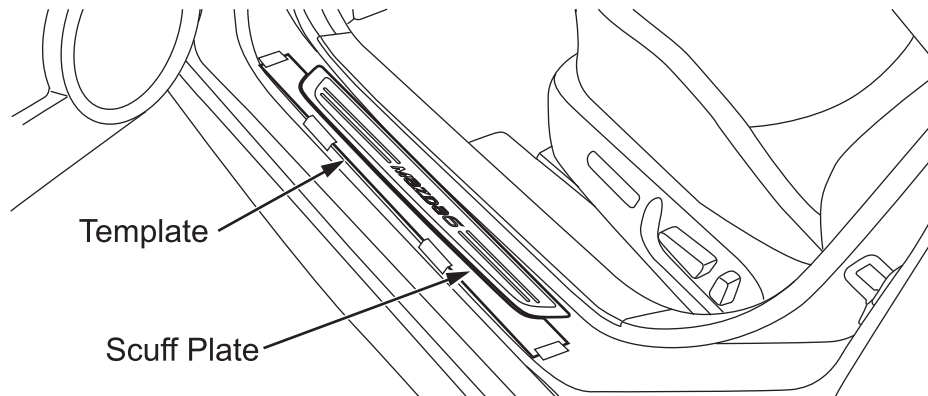

Figure 5
- A. Carefully align Scuff Plate with the Cardboard Template and press down flat into position (Figure 5).